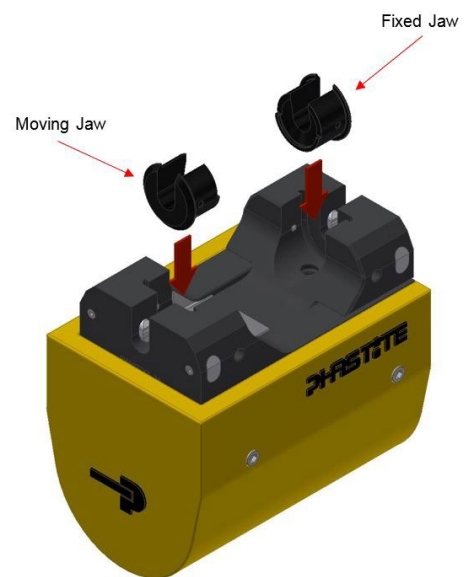

Figure 26
The two inserts are installed on the moving side of the tool and the fixed side of the tool (Figure 26).
1. One insert is installed on the moving jaw side of the hand tool (Figure 26). This is the side closest to the hand tool - hose interface.
2. The other insert is installed on the fixed jaw side (Figure 26). The fixed jaw is opposite the hand tool - hose interface.
5. The inserts slot in and out of Phastool® 3A and Phastool® 3B, and click into place (Figure 26).